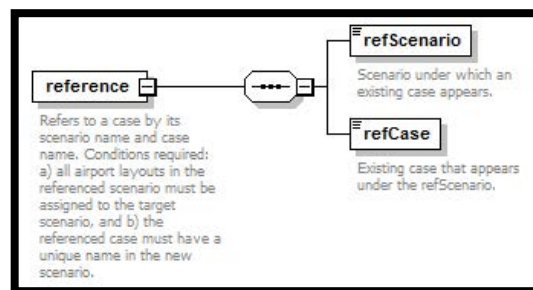

Figure 72. reference -> case and scenario
14. **AsifXml/study/scenario/case/reference** (Figure 72):